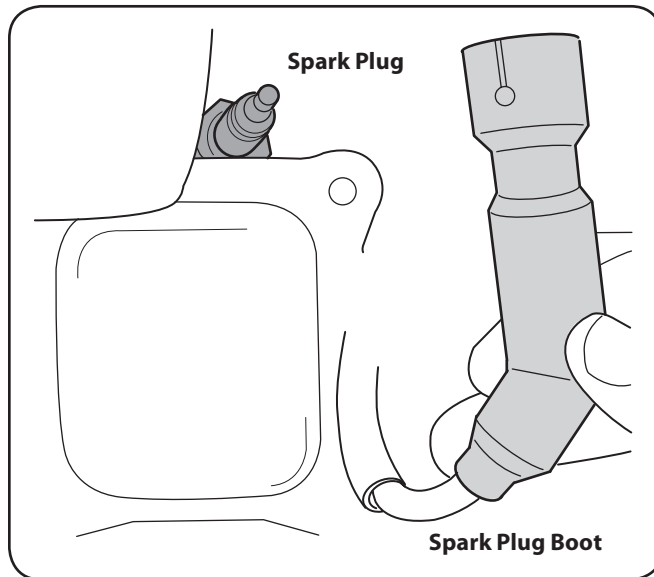

Figure 7-2
1. Remove the spark plug boot and use a spark plug wrench to remove the plug. See Fig. 7-2.